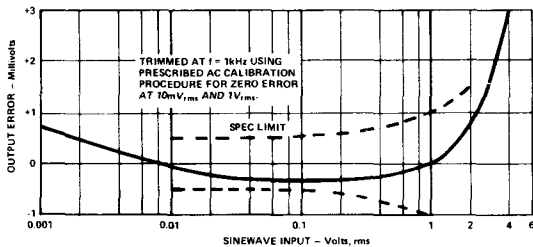
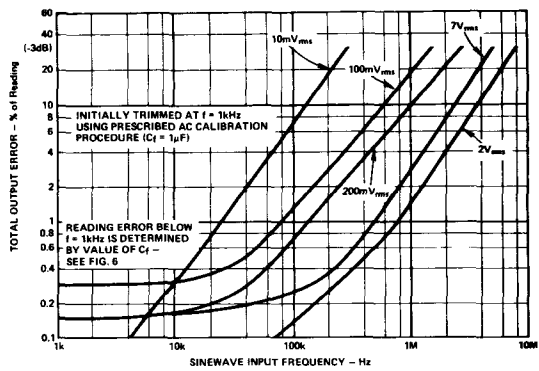

Figure 4. Trimmed Output Error Versus Sinewave Input Level ($f = 1kHz$)
Figure 5. Trimmed Output Error at High Frequency Versus Input Signal Level
1. Ground pin 8 and adjust R_O for $e_O = 0$ volts. Figure 4 illustrates the results of using the AC CALIBRATION PROCEDURE for zero error at 10mV_{rms} and 1V_{rms}.
Model 442's excellent wideband performance shown in Figure 5 results from its high speed input stage and from the use of reduced values of critical circuit resistance to minimize frequency response degradation due to stray capacitance. A special compensation circuit is also incorporated to extend the bandwidth for low level signals. Model 442 is optimized for operation from 10mV_{rms} to 2V_{rms} input levels, making it ideal for DVM applications.
The cross-over of the 100mV_{rms} and 200mV_{rms} curves with the 10mV_{rms} curve in Figure 5 results from the nonlinearities that remain after performing the AC CALIBRATION PROCEDURE — refer to Figure 4.